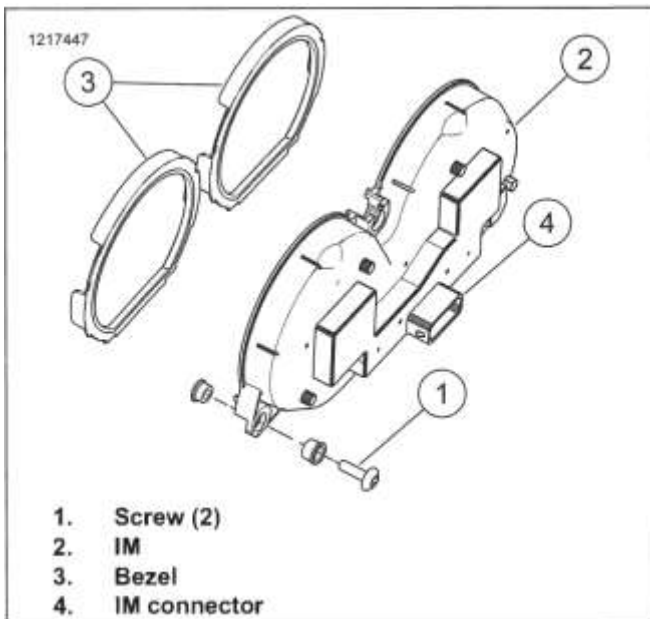
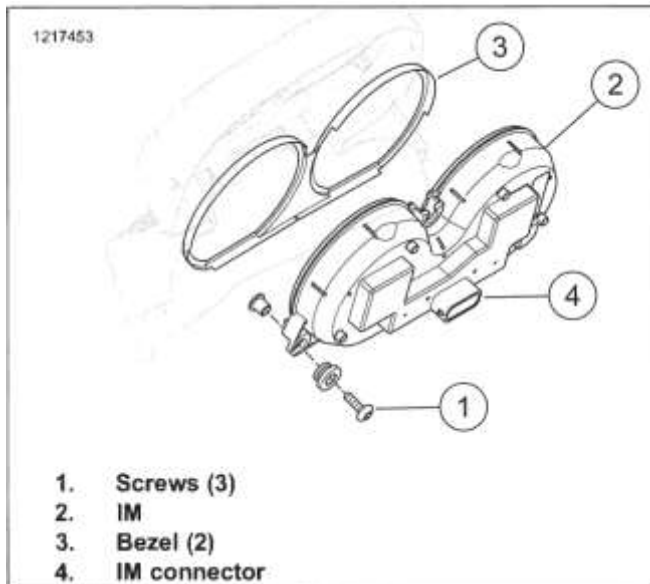
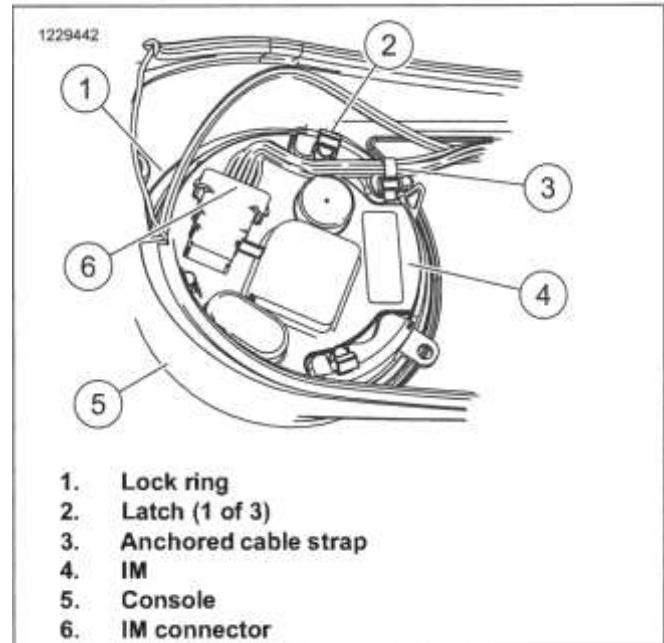

Figure 8-33. Instrument Module: Fork-Mounted Fairing
Figure 8-34. Instrument Module: Frame-Mounted Fairing
Figure 8-35. Non-Fairing IM
1. See Figure 8-33 or Figure 8-34. Install IM (2).
- a. If removed, install bezel (3).
- c. Fork-mounted fairing: Install IM screws (1). Tighten. Torque: 10-20 in-lbs (1.1-2.3 N-m) *IM screw: Fork-mounted fairing*
- d. Frame-mounted fairing: Install IM screws (1). Tighten. Torque: 12-17 in-lbs (1.4-1.9 N-m) *IM screw: Frame-mounted fairing*
2. Connect IM connector (4).
1. See Figure 8-33 or Figure 8-34. Disconnect Instrument Module (IM) connector (4).
2. Remove IM (2).
- a. Remove IM screws (1).
- c. If necessary, remove bezel (3).
1. See Figure 8-35. Remove IM connector (6).
1. See Figure 8-35. Lubricate groove of rubber gasket.